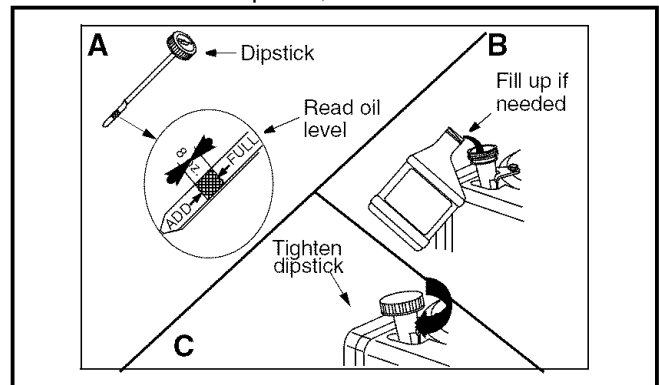

Figure 16
1. With engine on level ground, oil must be to FULL mark on dipstick. See Figure 16 .